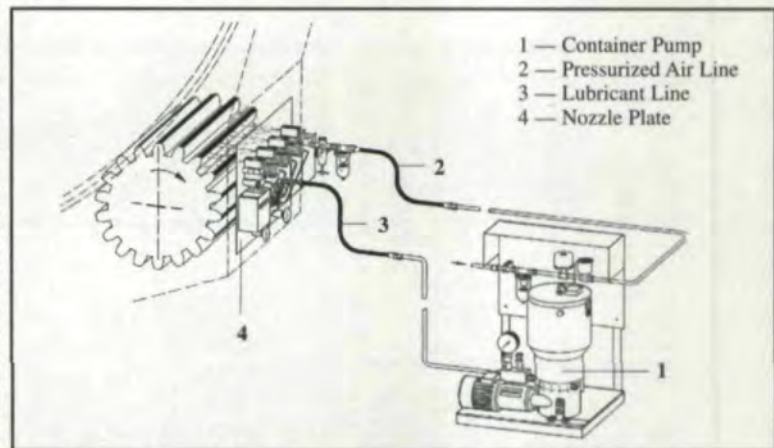

Fig. 13 — Spray lubrication system with container pump
- Spray lubrication systems with container pumps (Fig. 13).